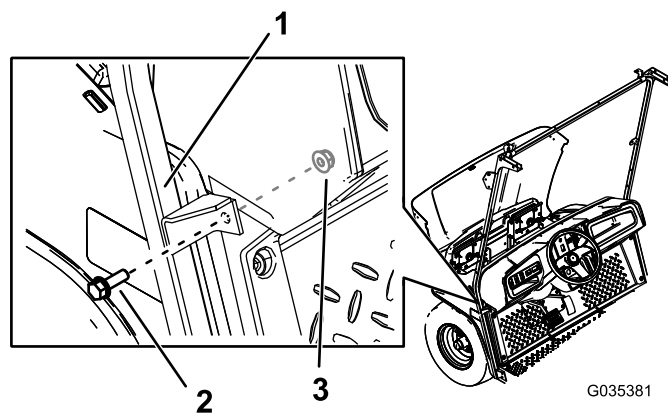

Figure 5
4. Secure the middle bracket of the windshield support to the machine using 2 hex-flange bolts (5/16 x 1 inch) and 2 nuts (5/16 inch) in the holes you drilled (Figure 5).